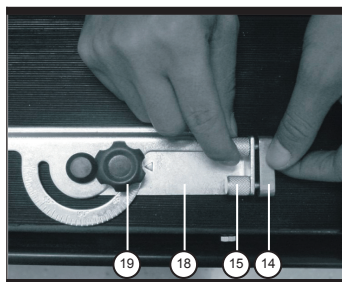
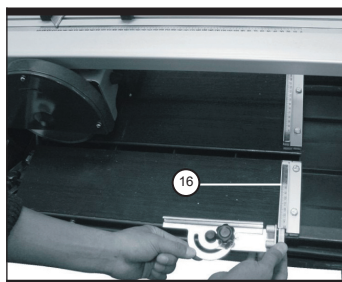
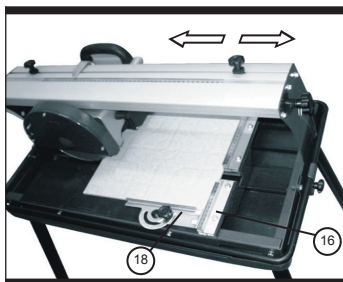

Fig 11
Fig 12
Fig 15
10.Connect the cross fence with the fence clamp (14) using the knurled screw (15) (See fig11)
11.Locate fence clamp (14) into the slotted square section of the fence (16) (See fig12)
1.Position the cross fence (18) at 90° and tighten the cross fence fixing knob (16). (See fig15)
2.Position and fix the cross fence (18) on the fence (16) according to your cutting requirement.(See fig 11,fig 12and fig 15)
3.Position the tile against the fence (16) and the cross fence (18).(See fig 11 and fig 12)
4.Activate switch (33) button "1"